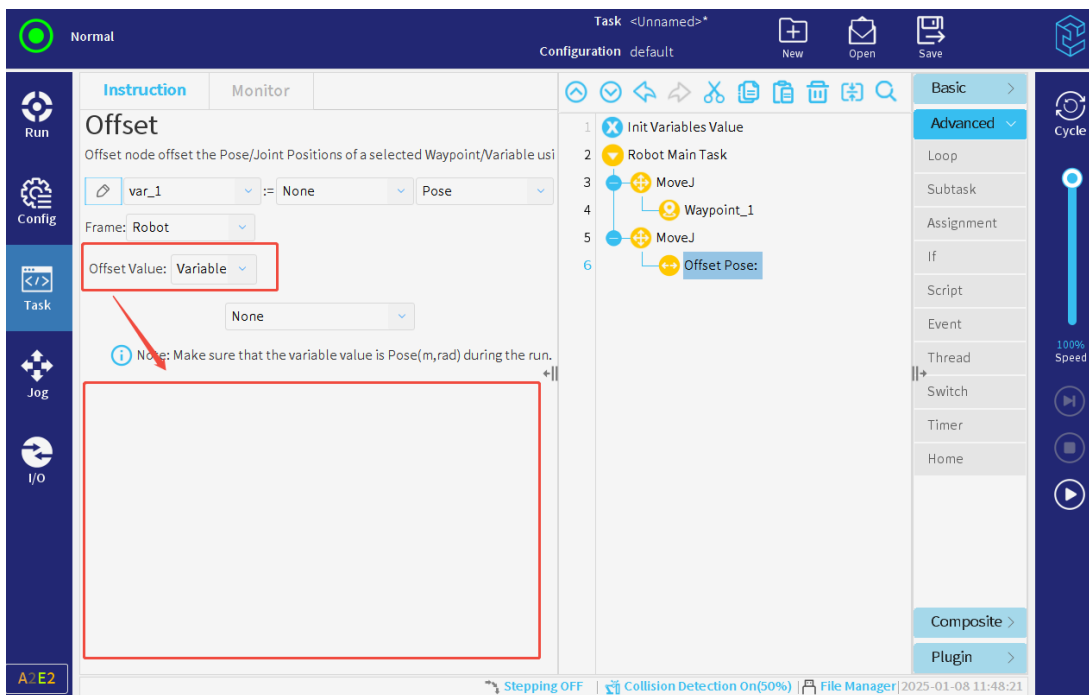

Figure 3-120 : Data Display Interface when Offset Value is A Task Variable
- Similarly, if the offset value is a task variable, since the data is not assigned a value when the task is not running, and the variable may change during runtime, the data is not be displayed when the offset value is a task variable, as presented in **Figure 3-120** .
Therefore, the data before and after the offset is still not displayed during the running of the tool coordinate system, just like in **Figure 3-120**.